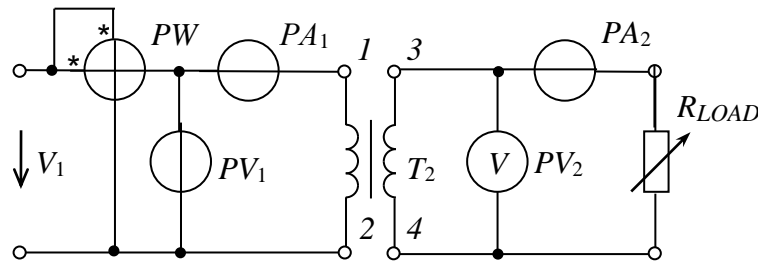

Fig. 9.3.
1. Collect the electrical circuit (fig. 9.3), where PV – is a Volt-meter, PW – a Watt-meter and PA – Ammeter.
The name and purpose of the work. The schematic diagram of the investigated circuit (fig 9.3). The tables 9.2, 9.3, 9.4. Conclusions.